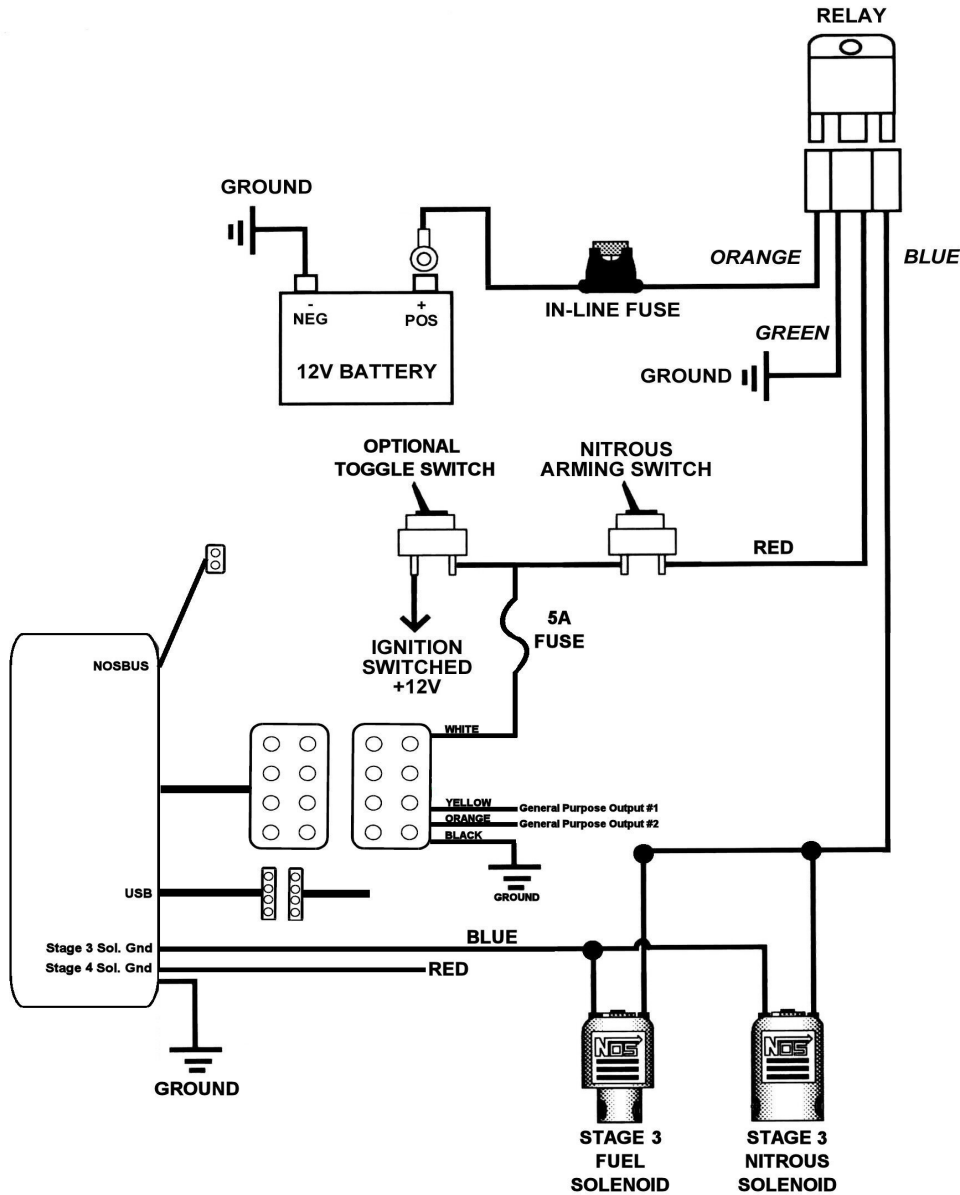

FIGURE 2 SLAVE WIRING
2. The slave unit wiring and colors are the same as the master controller. The slave unit does not have the USB cable connector, manifold vacuum/pressure input, or fuel pressure sensor input. Wire it per section 2.1 above. See Figure 2 below.